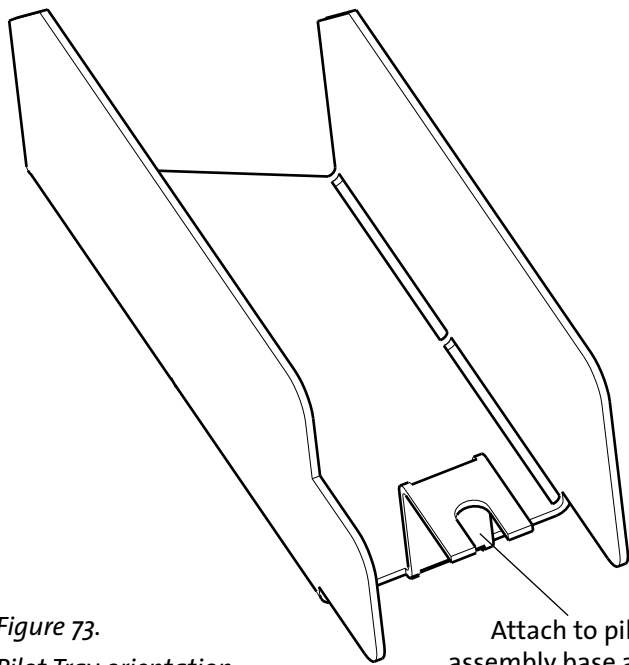

Figure 73.
1. The Pilot Tray is shipped flat in the Miscellaneous Hardware bag. Bend it up on the perforations as shown in fig. 73.